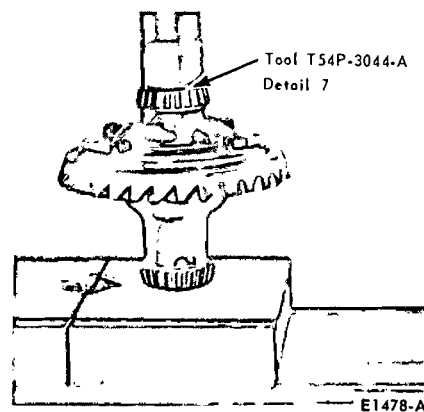

FIG. 24—Differential Bearing Installation
7. If the differential bearings have been removed, press them on as shown in Fig. 24.
1. Place the side gear and thrust washer in the differential case (Fig. 24). Lubricate all parts liberally with axle lubricant during assembly.